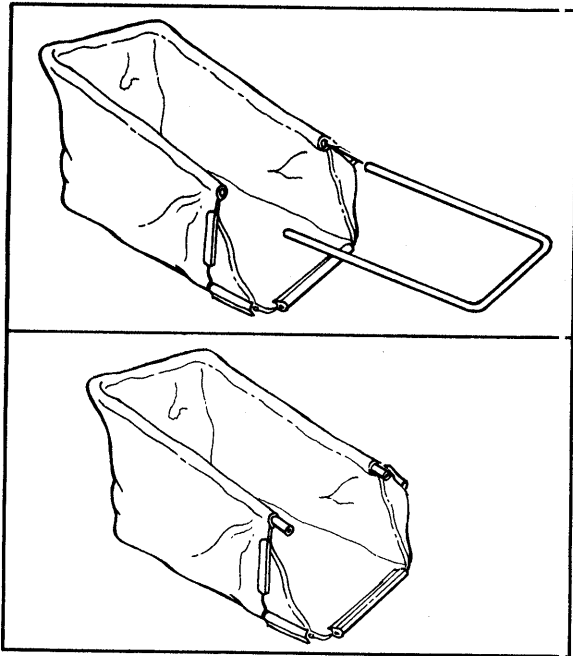

FIGURE 9.
- Insert one end of the rear frame into the cloth channel on the edge of the grass bag. See figure 9. ←